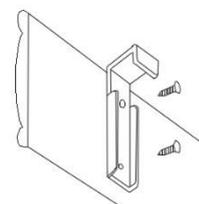

Figure 3
- Screw the pelmet clips (part C) to the back of the pelmet supplied, flush with the top of the pelmet (Figure 3)
- Insert headrail into mounting brackets (part A) (Figure 3) and lock hinged flaps down to hold headrail in position